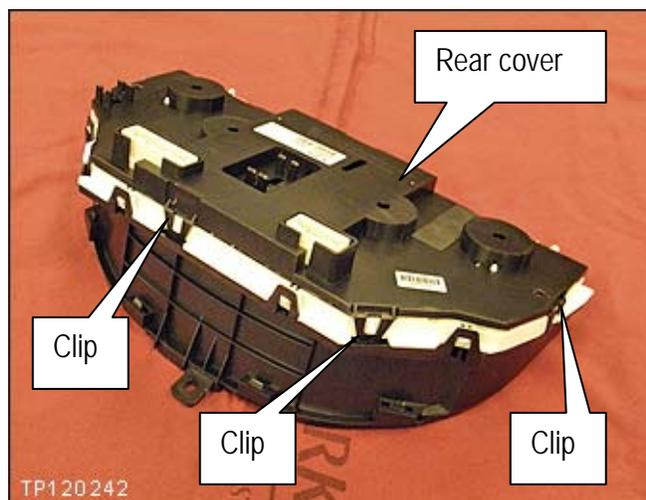

Figure 15
- Only 3 of the clips are shown in Figure 15. There are a total of 8 clips.